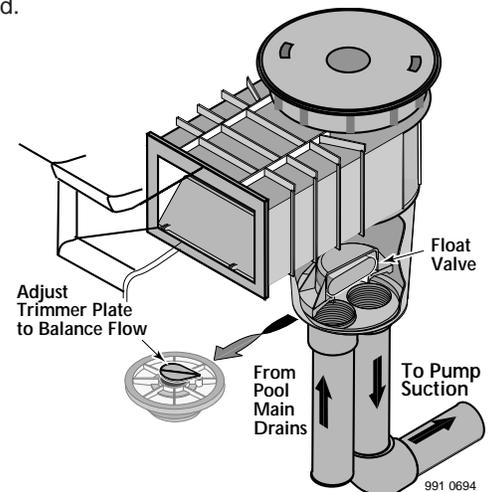

Figure 5: Typical residential installation with float valve. Use with at least two main drains.
Vacuuming pool (Figure 5): Remove cover, basket (and float valve and check valve if skimmer has them). Plug equalizer inlet. Replace basket and place vacuum plate on top of basket. Fill the vacuum hose with water, bring it in over coping or through skimmer throat, and attach the vacuum hose directly to the vacuum plate. Follow instructions in vacuum attachment or filter owner's manual for vacuuming operation. After vacuuming, remove hose and vacuum plate, unplug equalizer port, and reinstall check valve, float, basket, and cover. Be sure cover is solidly in the frame to prevent accidentally dislodging it. Fasten cover with screws provided if children use pool.
3. See Figures 5 and 7, Pages 2 and 4, for piping layout. See Table I, Page 4, for suction pipe sizing.